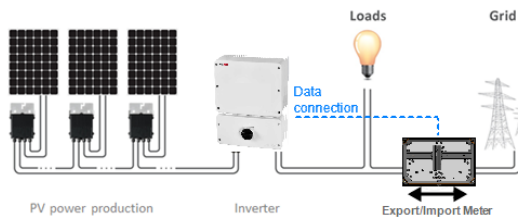

Figure 6: Typical installation with export/import meter
2. Open one of the the *bottom* conduit drill guides for AC wiring (see *Figure 6* below), taking care not to interfere with any of the internal components. A Unibit drill may